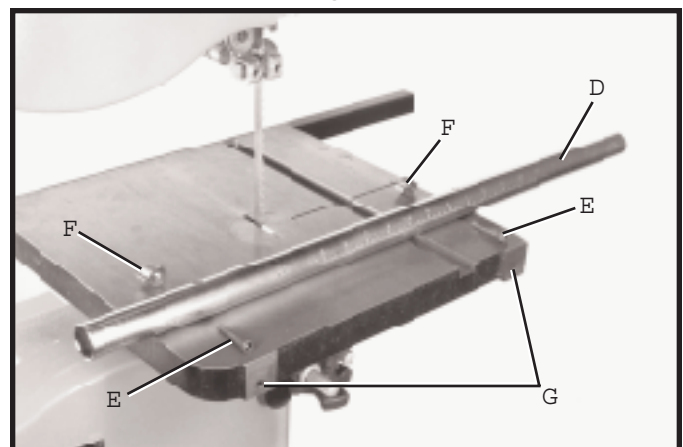

Fig. 23
3. Assemble front guide rail (D) Fig. 23, to band saw table using 1/4-28 x 1-1/4 hex socket head screws (E), and spacers (F), at locations (G). Position spacers between table and guide rail.